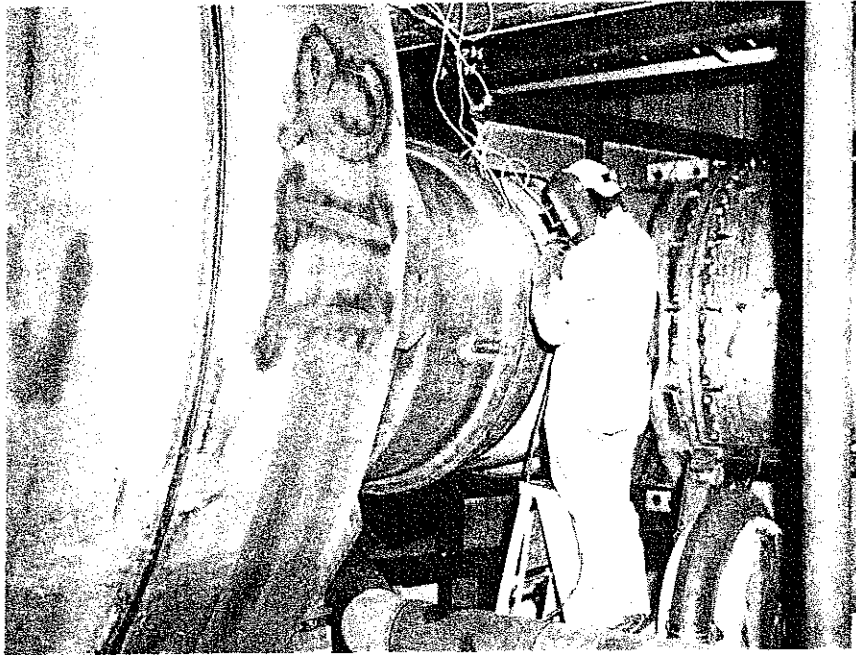

FIG. 11 WELDING
6. Metallic arc weld each joint. Use ASTM 7016 or 7018 rod per UCN W-103. As an alternate, short-arc weld with E-705-4 wire per UCN W-123. Complete Freon line welding as soon as possible. (Fig. 11)